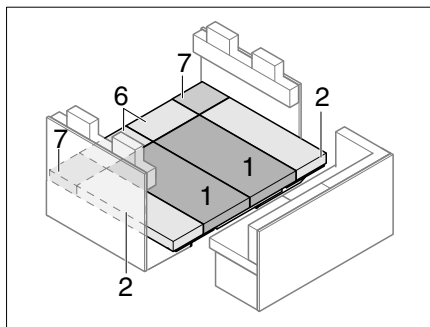
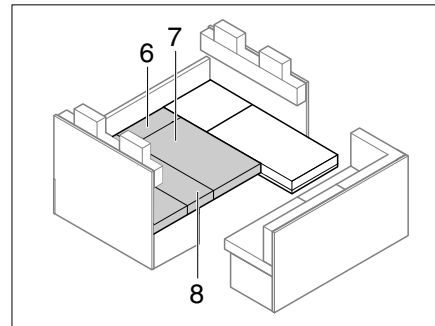

Fig. 201 After conversion
Fig. 205 After conversion
- Lay on the seat, backrest and additional cushions as shown in Fig. 201.
- Position the seat, back and additional upholstery as shown in Fig. 201 to Fig. 205.